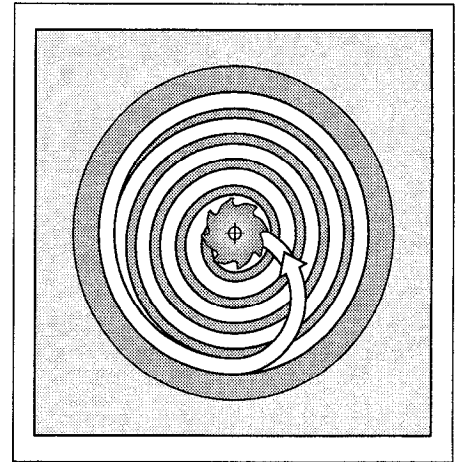

Fig. 8.11: Cutter path for roughing-out
- The cutter subsequently follows a spiral path (shown in Figure 8.11) at the programmed feed rate. The stepover factor is determined by the value k (see G75/G76 POCKET MILLING, Calculations).